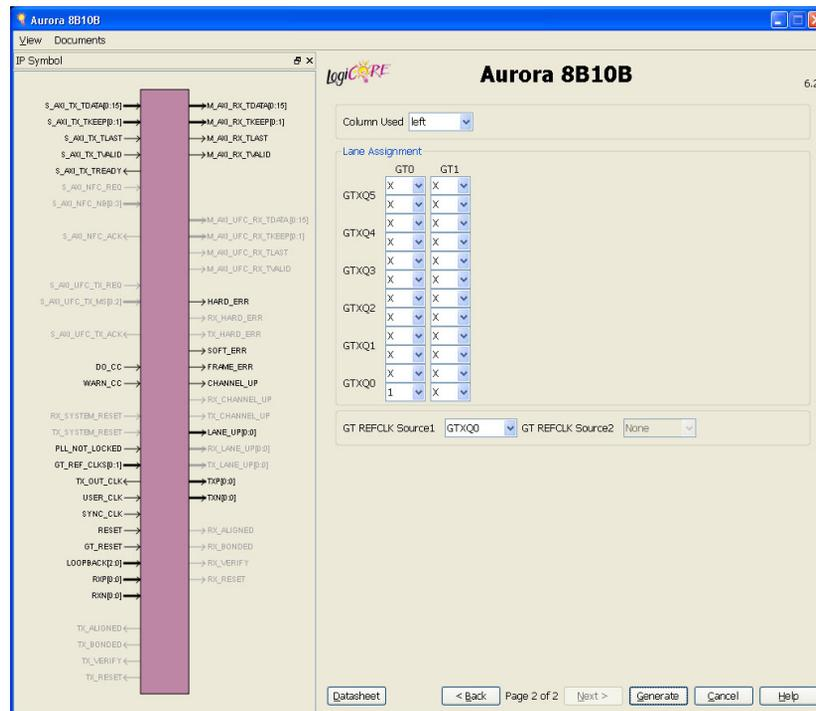
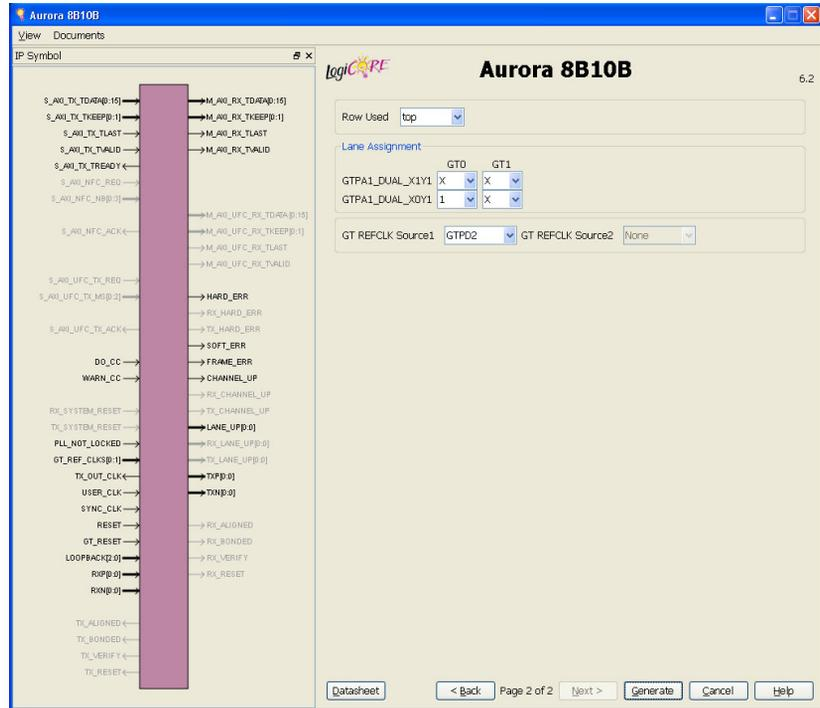

Figure 2-2: Second GUI Page for Virtex-6 FPGA GTX Transceivers
Figure 2-3: Second GUI Page for Spartan-6 FPGA GTP Transceivers
- Figure 2-2, page 20 for Virtex®-6 FPGA GTX transceivers
- Figure 2-3, page 21 for Spartan®-6 FPGA GTP transceivers
Refer to the diagram in the information area in Figure 2-2, page 20 and Figure 2-3, page 21. Each row represents a GTPA1_DUAL tile in Spartan-6 FPGAs or two columns represent a GTX Quad in Virtex-6 FPGAs. Each active box represents an available GTP/GTX transceiver.